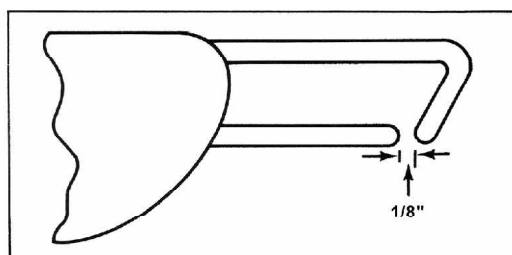

Figure 5 Lighter tip
A. Electrode spark gap too large or carbonized.	Reset gap to 1/8". See Figure 5.